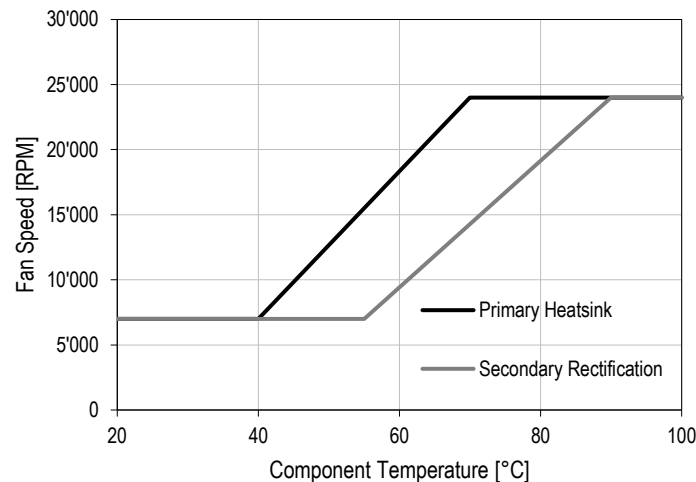

Figure 7. Fan speed versus power stage temperatures
- Component depending Fan Speed curve according to *Figure 7*.